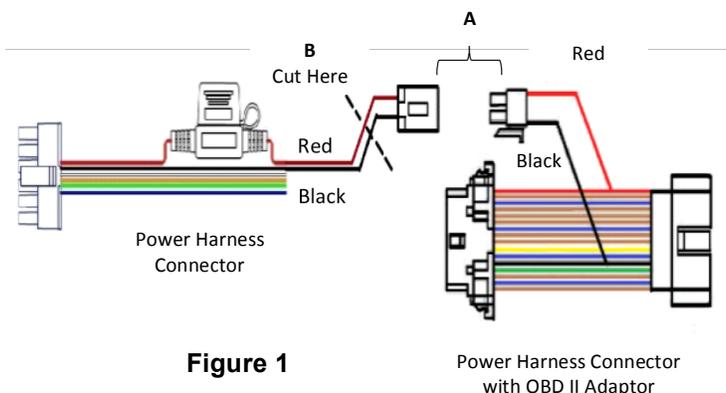

Figure 1
- Using the OBD II adapter:** Connect the 2-pin power harness connector to the OBD II adapter (Figure 1). Remove the screws securing the vehicle's original OBD port (female). Plug the male end of the OBD adapter into the vehicle's original OBD port. Please note: you can secure the connection by using a zip tie to create a bond between the two ports. Next, install the female end of the OBD port adapter in the same spot where the original OBD was located by using the plastic clip. Please note: If the manufacturer's OBD clip works, then use that to secure the OBD adapter female port.
- Without using the OBDII adapter:** Remove the 2-pin connector, cutting the Red and Black wires of the power harness. (Fig. 1)